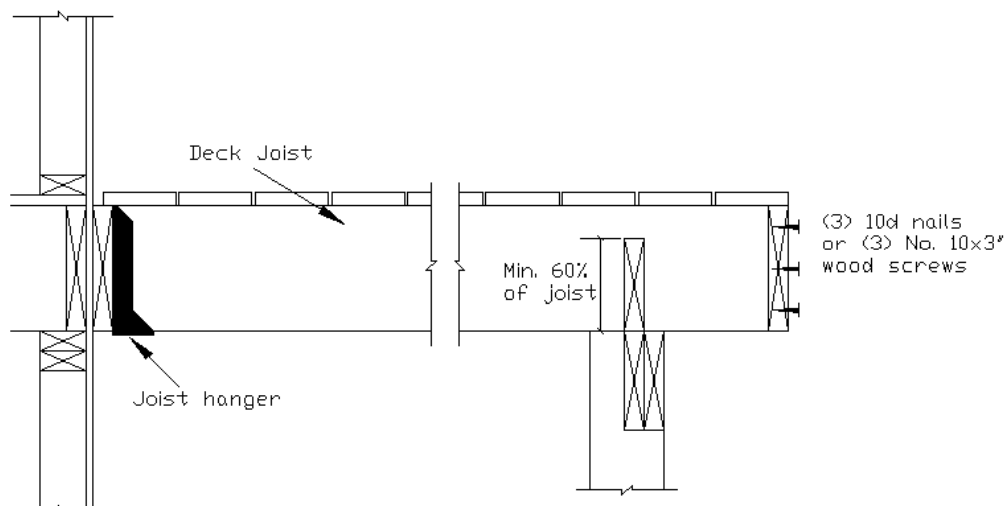

Figure 8
Bearing locations and joist ends shall be provided with lateral restraints to prevent rotation. This can be accomplished by use of joist hangers or blocking between joists at a depth of at least 60 percent of joist depth. If accomplished by rim board, use (3) 10d nails or (3) No. 10x3-inch long wood screws to attach rim joist into each floor joist (see Figure 8). [R507.6.2]